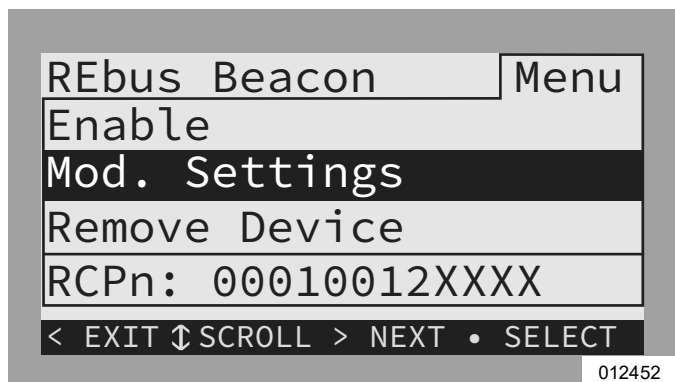

Figure 6-15. Configuring TOU Schedule (2 of 4)
2. See Figure 6-15. Use the up and down arrows to highlight Mod. Settings and press the center button to enter the settings menu.